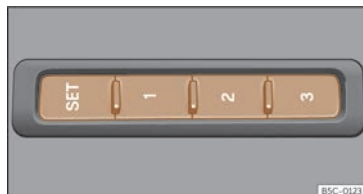

Fig. 92 On the outer side of the driver's seat: memory buttons.
- Press **SET** for longer than 1 second >>> **Fig. 92**.